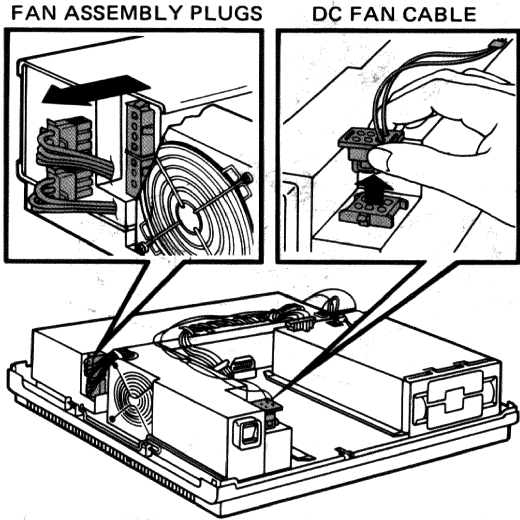

Figure 5-33 Unplugging DC Fan Cable and Plugs Near Fan
5. (PC100B only) Unplug the dc fan cable from the connector in front of the fan assembly. (See Figure 5-33.) Disconnect this cable from any tie-down clip on top of the fan bracket assembly.
- 6. Pinch the sides and unplug the two fan assembly plugs that are near the fan, as shown in Figure 5-33. You will have to pull hard.